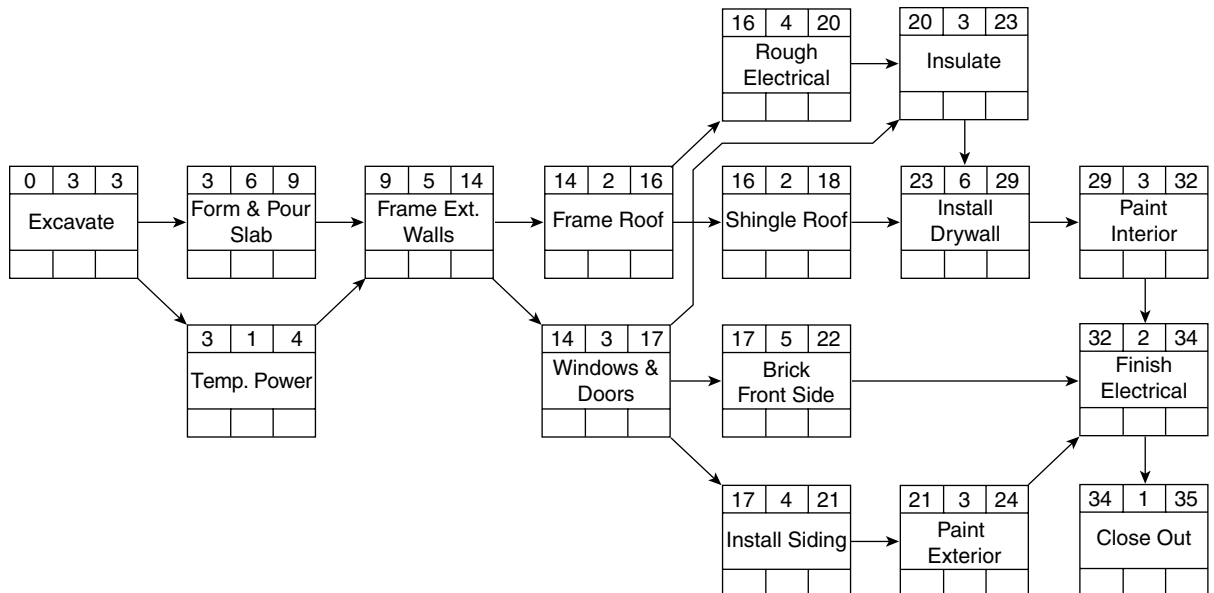

FIGURE 8.6 Forward pass is completed for the warehouse project
Notice in Figure 8.5 the ES for *Frame Ext. Walls* is the largest EF of the predecessor activities, the 9, not the 4. Then, add the duration to get the EF day: $9 + 5 = 14$. Hence, the EF for *Frame Ext. Walls* is the end of day 14. Continue in a like manner, always choosing the larger of the predecessors for the ES day, adding the duration to get the EF day and continuing this through the rest of the network as shown in Figure 8.6.
As can be seen from the network in Figure 8.6, the project is scheduled to finish on the end of day 35. Also note that the ES day for *Insulate* is the larger of its two predecessors, *Rough Electrical* (20) or *Windows & Doors* (17), so the 20 was chosen. Further notice that